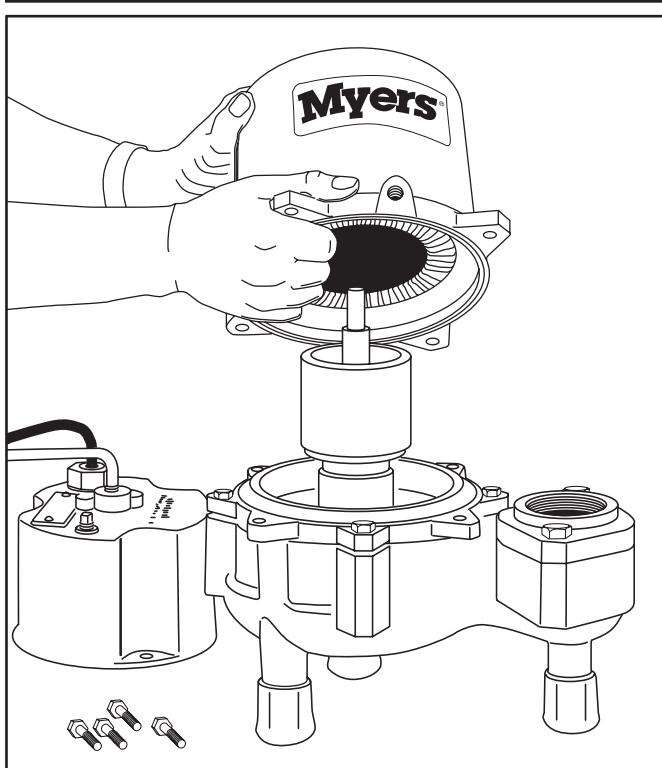

Fig. 16
3. Lift off motor housing, pry between ears to loosen. Fig. 16